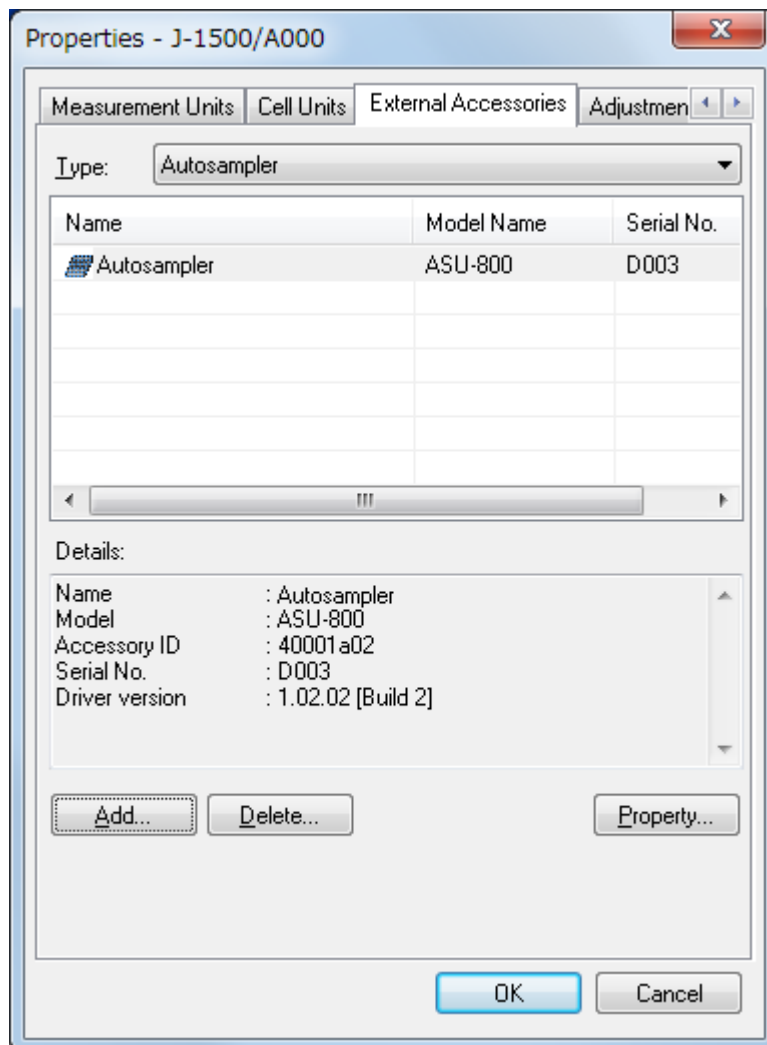

Figure 3.18 [External Accessories] tab in [Properties] dialog box
- (3) [Name] is automatically entered by selecting the accessory in the [Accessory ID] drop-down list. Type the serial number and a comment as required, and then click the <OK> button to register the accessory and display it in the list of registered accessories (see Fig.3.18).